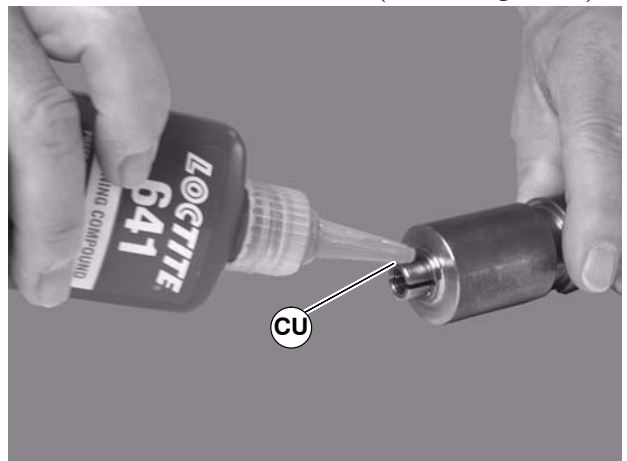

Figure 54
1. Apply a small amount of Loctite 641, or equivalent, to the outside of stub shaft (CU of Figure 54).